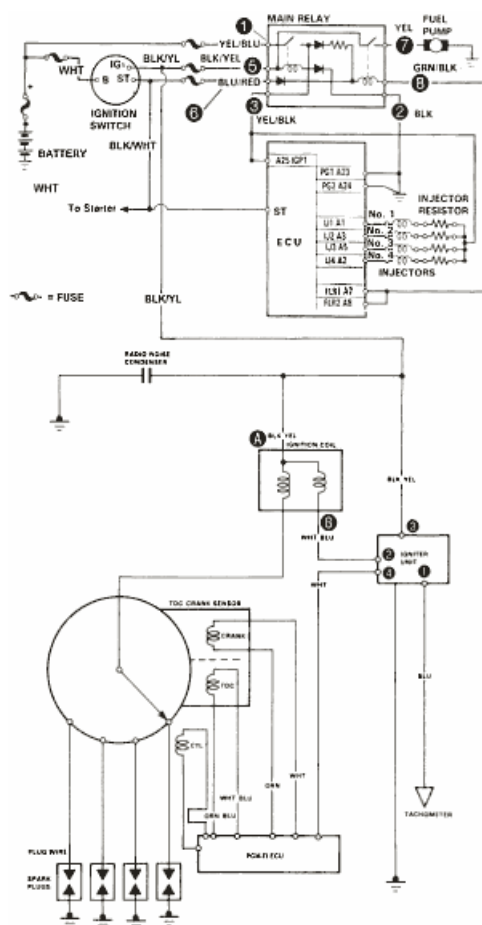

Figure 2: Typical electrical switch circuit which exclude lights and accessories (that aren't mission critical.)
- The following will check for voltages or resistance on the back of the electrical switch or at the end of the electrical switch wire harness connector. To gain access the the terminals see replacement procedures below. Please observe the diagram above (fig.2) which may identify the wire colors that matches your car. **WARNING: You will be working in a high current area. No metallic arm bracelets, screw drivers, wrenches or anything that may short the circuit, causing sparks and/or heating-up your tools within a fraction of second and cause skin or eye burns during this test. This may also blow out the fuse or cause a fire.**